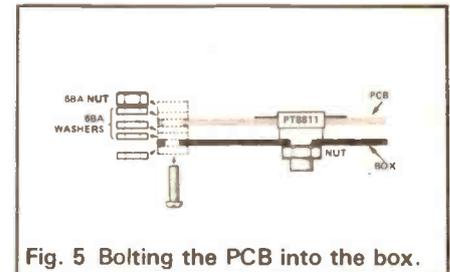

Fig. 5 Bolting the PCB into the box.
7. Bolt the PCB loosely into the box as shown in Fig. 5.